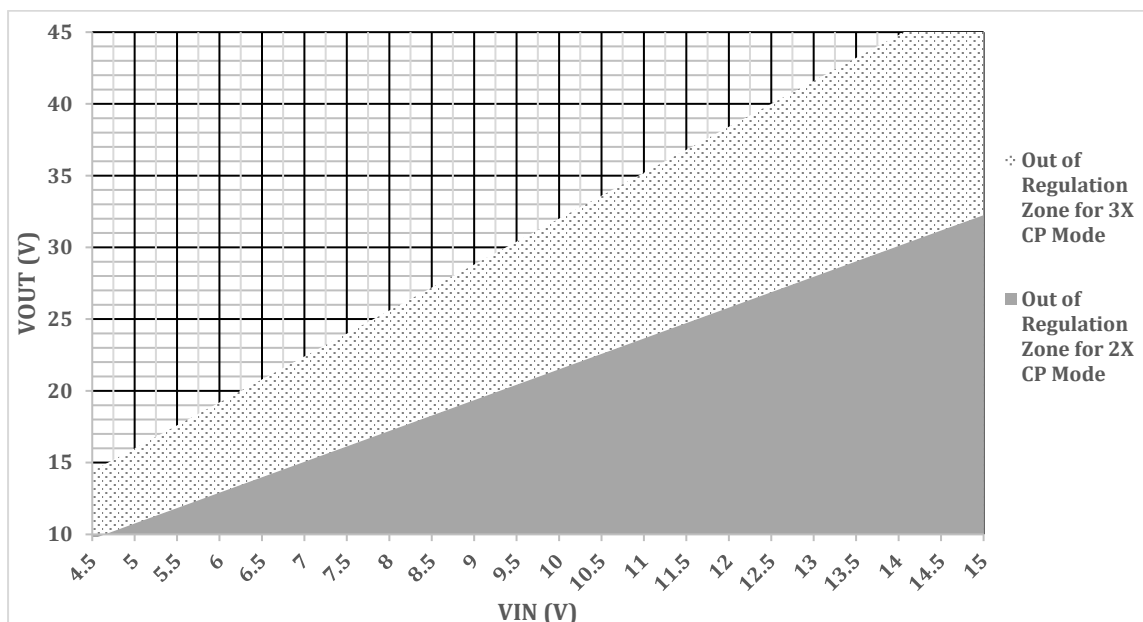

Figure 5. V_{OUT} vs V_{IN} Requirement
2. The V_{IN} and V_{OUT} ranges must meet the valid operating regions as shown in Figure 5.
Figure 5 shows a graph of the output voltage versus input voltage. In addition to maintaining the minimum V_{OUT}/V_{IN} requirement for the 2x/3x charge pump modes, the graph shows a region called “Out of Regulation Zone for 2x/3x Charge Pump Mode” not supported for normal operation. Failure to maintain the minimum V_{OUT}/V_{IN} requirement or attempting to operate in the “Out of Regulation Zone for 2x/3x Charge Pump Mode” could result in the ARC3C0845/ARC3C0845W having lower efficiency, faulting off, or requiring a restart. To prevent the V_X over voltage condition, operate the charge pump in 3x charge pump mode for $V_{OUT} > 40V$.